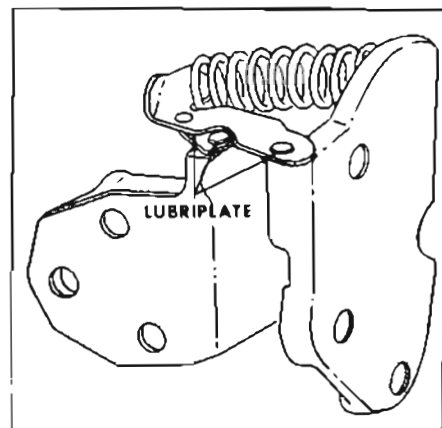

Figure 1-15—Door Hold Open Lubrication
1. Front and Rear Door Hinge Hold Open - Wipe off dirt and apply a thin coat of Lubriplate or equivalent at points indicated in Figure 1-15.